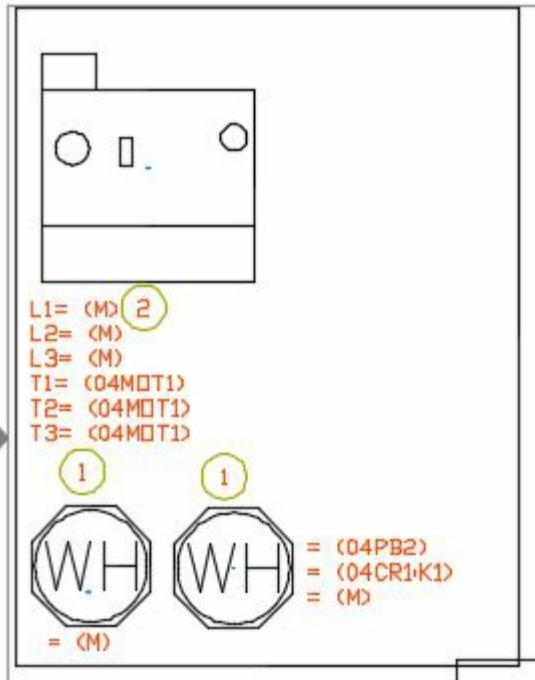

Figure-59. Panel drawing for Practical 1
- Similarly insert the other components of the user panel and assign balloons as discussed in the chapter. After adding all the components and the balloons the panel layout will be displayed as shown in Figure-59.